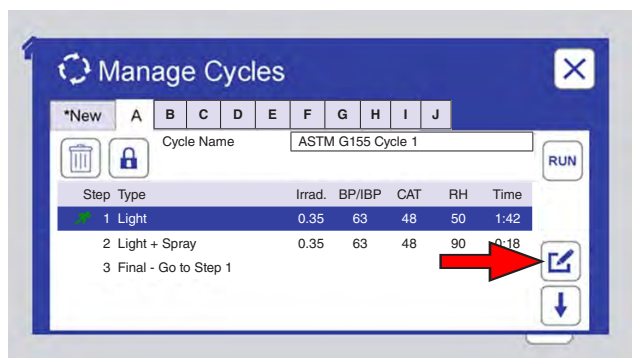
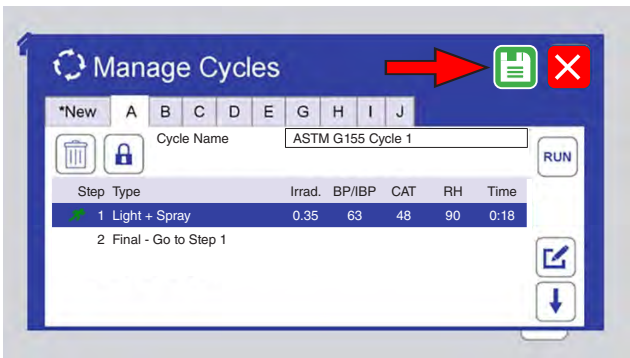

Figure 11.6.4a: For any cycle, a new step can be added before or after an existing step. Select the existing step then touch the Edit icon.
Figure 11.6.6d: Touch the save icon to save the edited cycle.
- Add, edit, or delete steps in a cycle (Figure 11.6.4a through Figure 11.6.6d).